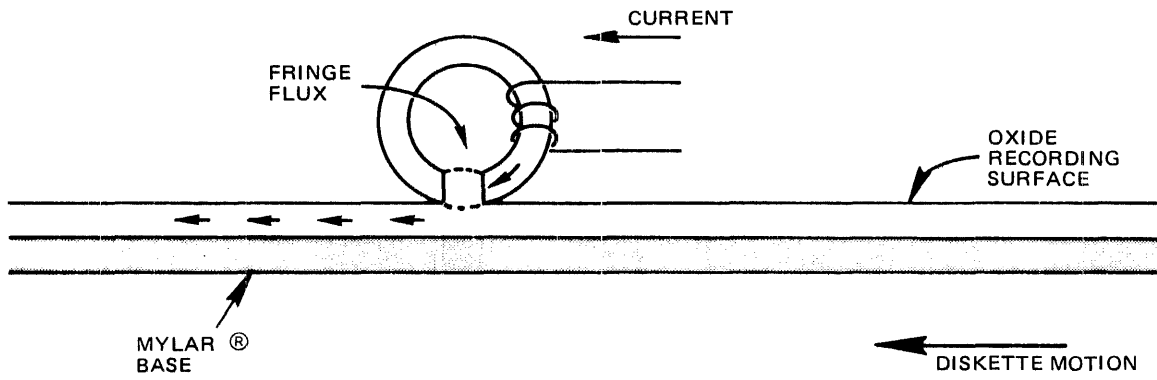

Figure 24 Basic R/W Head
4.2 The read/write head is a ring with a gap and a coil wound some point on the ring. When current flows through the coil, the flux induced in the ring fringes at the gap. As the diskette recording surface passes by the gap, the fringe flux magnetizes the surface in a horizontal direction. See Figure 24.